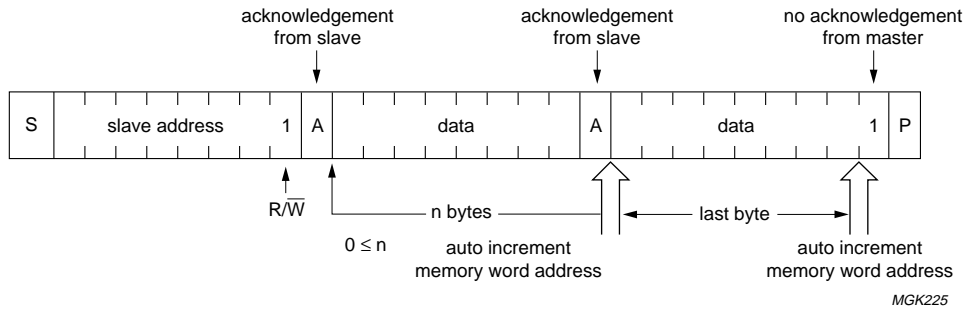

Fig.17 Current Address Read.
If the master wishes to read more than one byte (Sequential Read), it generates an Acknowledge ( $A = 0$ ) after receiving the data byte, and does not generate a Stop. Any number of bytes can be read with this procedure; the address pointer will wrap-around to address 00H when the highest address is read. To end Sequential Read, the master generates a No-acknowledge ( $A = 1$ ) and a Stop (P). Figure 17 illustrates the Current Address Read and Sequential Read procedure.